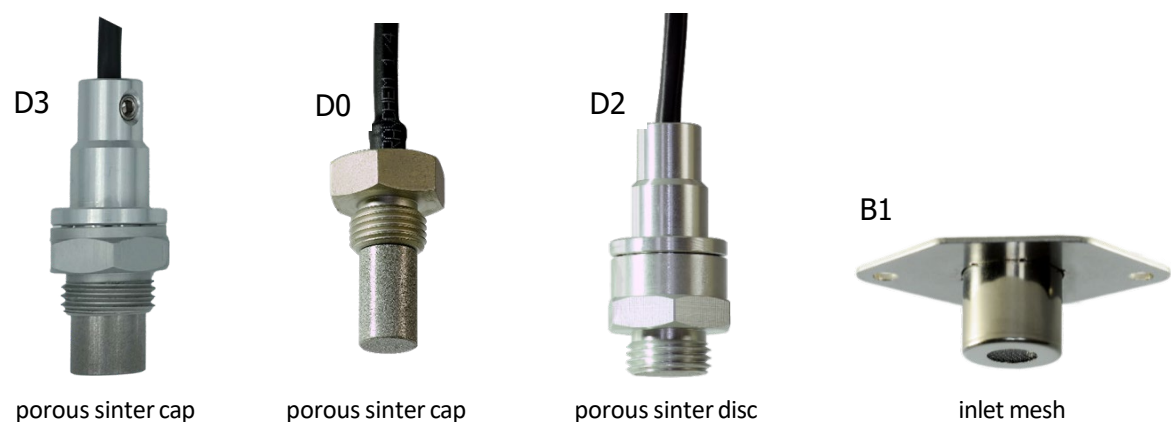

Figure 4 Sensor's porous sinter cap/disc or inlet mesh
- Sensor housing temperature depends on the selected sensor head design (Figure 4) and the thermal connection to the process chamber.